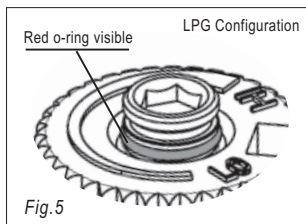

Fig.5
- 13) Verify that if the conversion is from NG to LPG, the screw must be re-assembled with the red o-ring visible (Fig. 5).